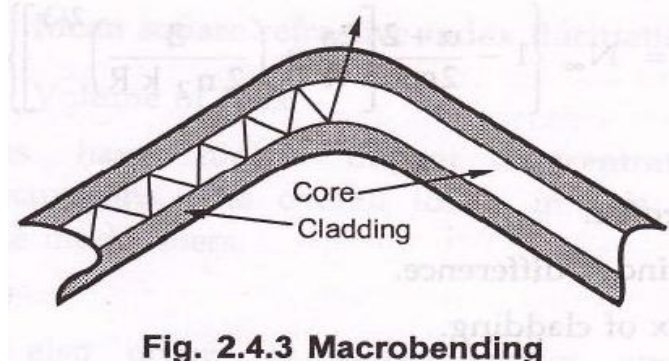

Fig. 2.4.3 Macrobending
- The macrobending losses are caused by large scale bending of fiber. The losses are eliminated when the bends are straightened. The losses can be minimized by not exceeding the long term bend radii. Fig. 2.4.3 illustrates macrobending.